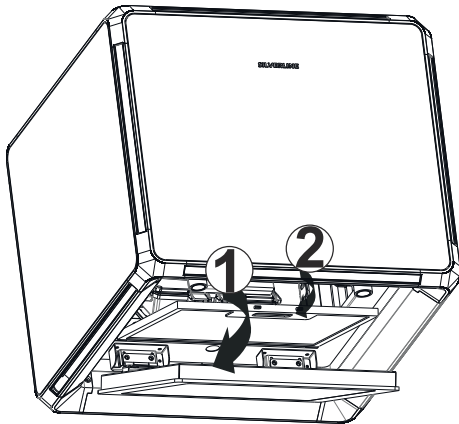

Fig. 9: Removing the metal oil filter
1. ➤ Open the metal cover of the hood (Fig. 9).
2. ➤ Unlock the metal oil filter (Fig. 9/2) and secure it against falling with the other hand.
3. ➤ Tilt the metal oil filter forward and remove it (Fig. 9).